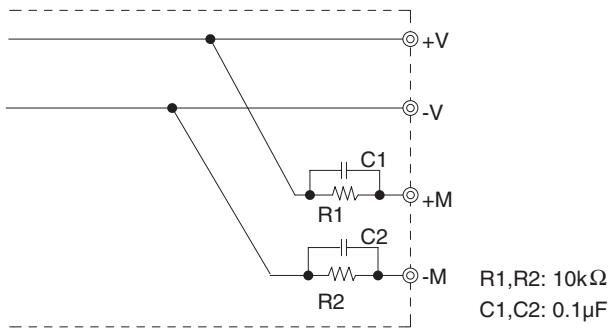

Fig.4.1 Internal circuit of output voltage monitor
- Fig.4.1 shows the internal circuit of monitor (+M, -M) terminal.